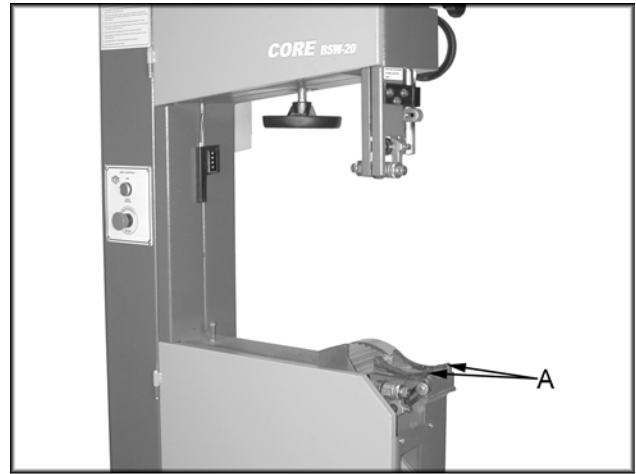

Figure 1
2. Grease the trunnions (A, Figure 1) on bandsaw prior to assembling table.